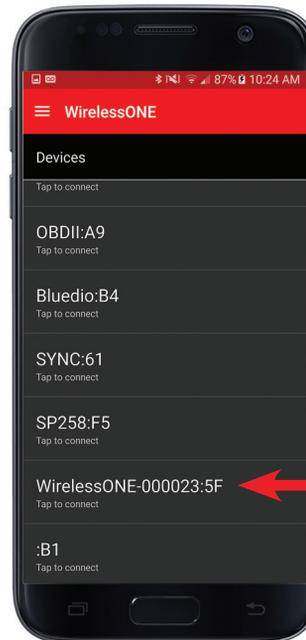

fig. D.2
3. The app will automatically go to the devices screen if no connected manifold is detected. Click on the device you want to pair. The manifold will have WirelessONE in the title. Each device also shows the connection status (Fig. D.2).